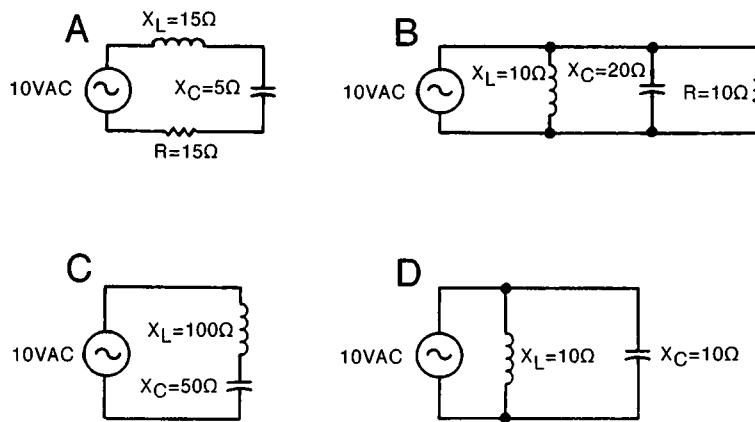

Figure 5-59
3. Which of the circuits shown in Figure 5-59 is at resonance?